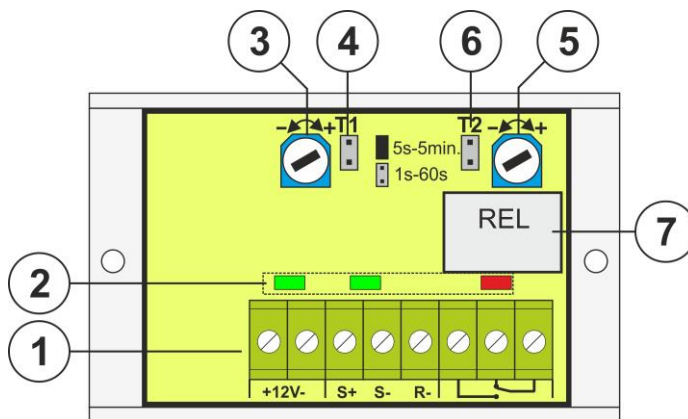

Fig.1. The view of the module.
No. [Fig.1]	Description
①	<p>Connector: +12V- - The module's power supply, DC voltage S+ - control input supplied by the positive power supply S- - control input activated by the negative power supply (power supply minus) R- - Reset input activated by the ground (power supply minus)</p>  <p>- REL relay connector</p> <p>CAUTION ! In Fig.1 the set of contacts shows a potential-free status of the relay.</p>
②	<p>LED (green): – optical indication green – supply voltage green – trigger signal indication (S + or S-) red – The REL relay activation indication – (the LED is on when the relay is activated)</p>
③	<p>Potentiometer for T1 trigger time adjustment</p>
④	<p>Time range jumper T1:  1s – 60s. time range  5s – 5 min. time range Description:  jumper on,  jumper on</p>
⑤	<p>Potentiometer for T2 relay activation time adjustment</p>
⑥	<p>Time range jumper T2:  1s – 60s. time range  5s – 5 min. time range Description:  jumper on,  jumper on</p>
⑦	<p>Relay</p>